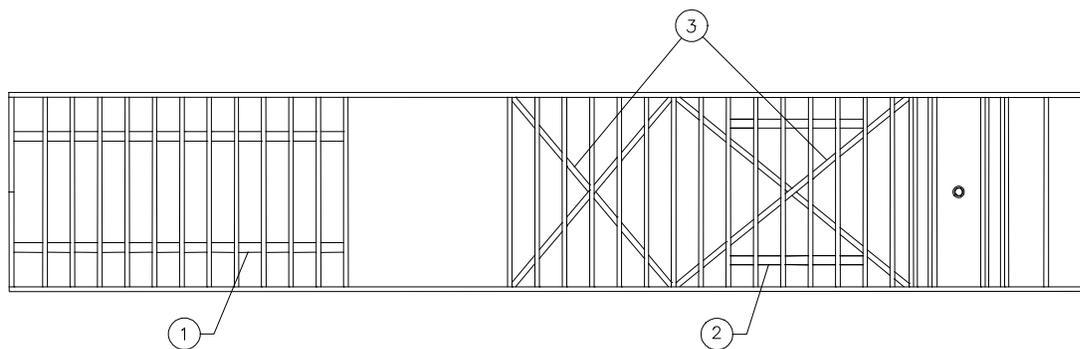
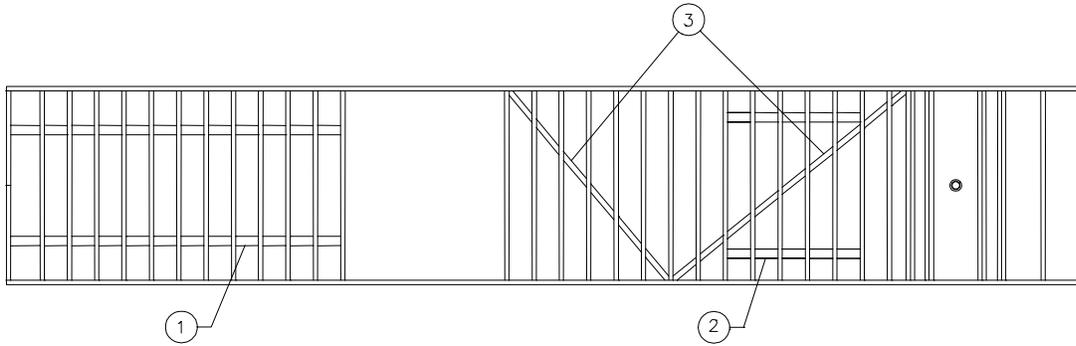

Figure 5
Figure 6
1. Install bracing as shown in Figures 5 or 6.
It is best to add bracing before removing the old floor, because the floor keeps the trailer straight. If flat bar is used, make a cross-bracing (Figure 5) because it will buckle easily under compression, without the cross-bracing. Steel angle does not require a cross. (Figure 6) Make sure there is enough wheel clearance when installing steel angle. The bracing should reach to the drive opening. Weld or bolt the braces to each intersecting cross-member.